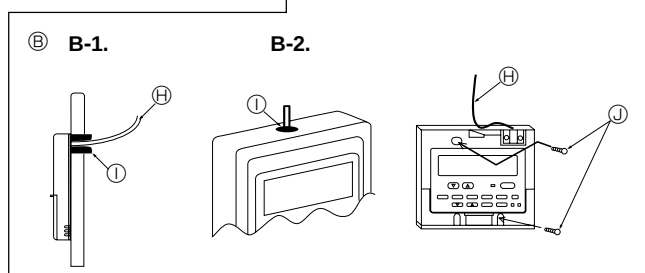

Fig. 2-2
(2) Seal the service entrance for the remote controller cable with putty to prevent possible invasion of dew drops, water, cockroaches or insects. (Fig. 2-2)
[Fig.2-2]